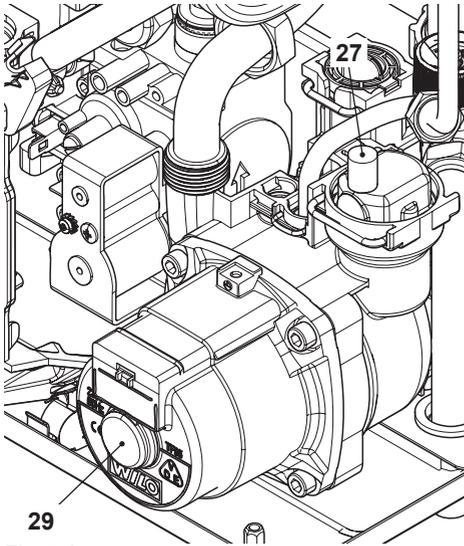

Fig. 7.2
- Lift the plug on the automatic air purger valve 27 in Fig. 7.2 and leave open permanently.
- Purge the air from the pump by unscrewing the pump plug 29 (Fig. 7.2); release